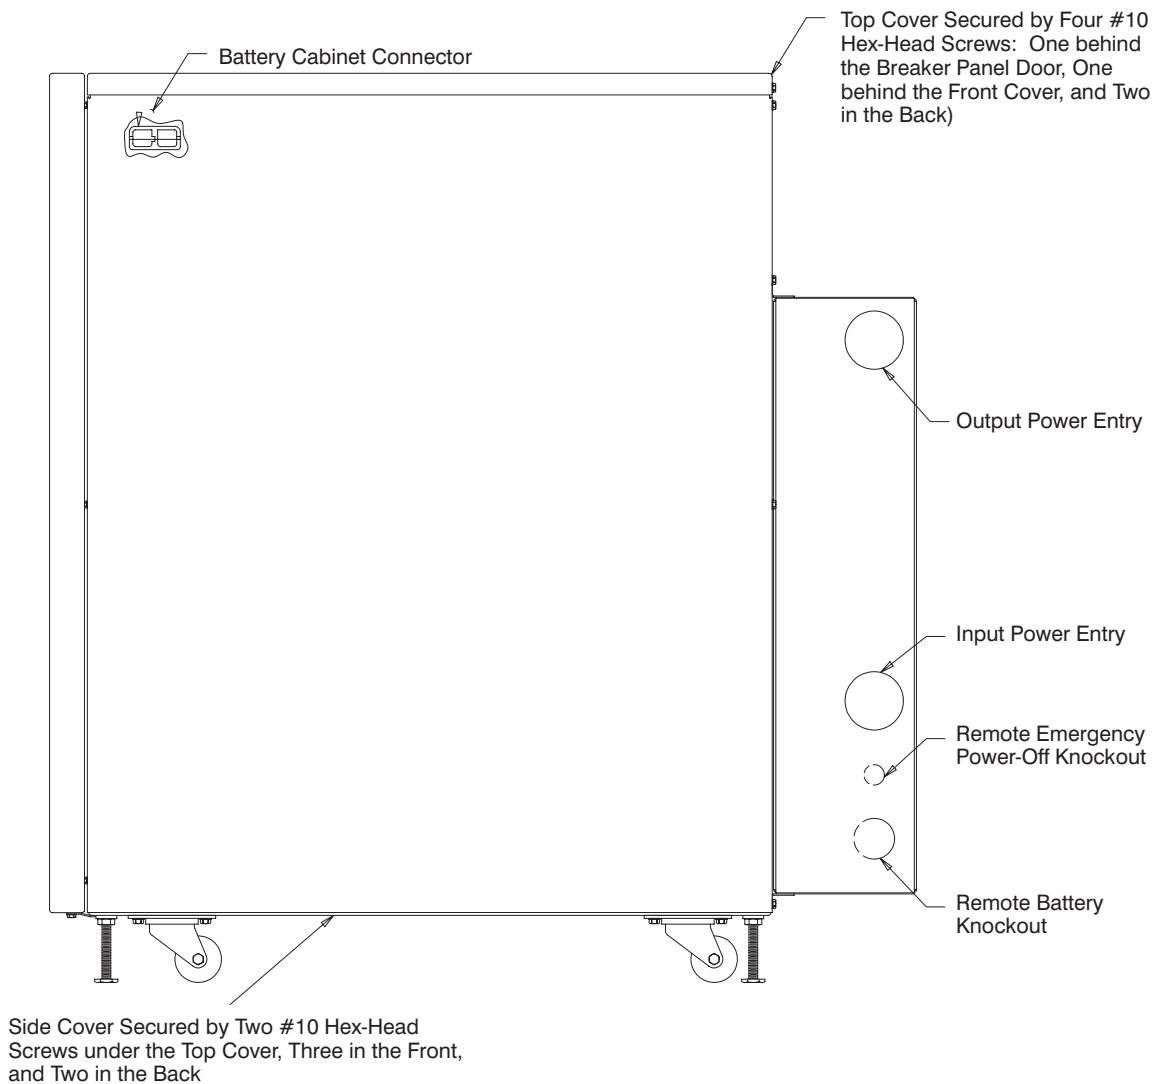

Figure 14. Power Processor Cabinet (Right Side View)
3. Remove the four #10 hex-head screws located behind the breaker panel door, the front cover, and in the back (see Figure 14). Retain the screws.
6. Remove the seven #10 hex-head screws for the right side cover (see Figure 14). Retain the screws.